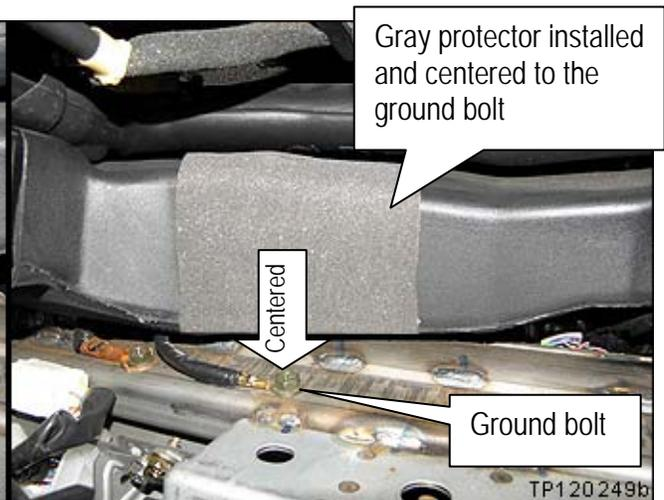

Figure 11b
- b. Attach the protector so the center of the protector is aligned with the ground bolt (see Figure 11b).